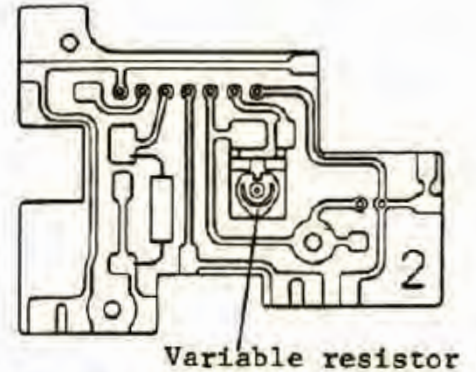

Fig. 92
A. Adjusting the variable resistor as shown in Fig. 92.